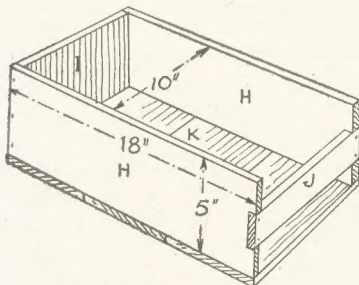

Fig. 2—The lower box frame
one bar (J) cut from stuff about 2 ins. wide to the full width of the box. This bar (J) should be let into the sides (H) to come flush with the edges of them, as illustrated in Fig. 2.
The floor of the box may be formed from three or more pieces of stuff cut the full width of the framing and nailed to the underside, as seen in Fig. 2.
The box to take the dust underneath the sifter is made as the diagram Fig. 2 shows. There are two sides (H) 18 ins. by 5 ins., one end (I) about 10 ins. by 5 ins.,
If using such backs, it is as well to make a brooch mounting board of the type shown in Fig. 2. This is merely a small block of wood with a slot large enough to take the pin, leaving the flat part of the brooch in contact with the block. In this way the cementing of brooch to base may be done under pressure and a reliable job made.